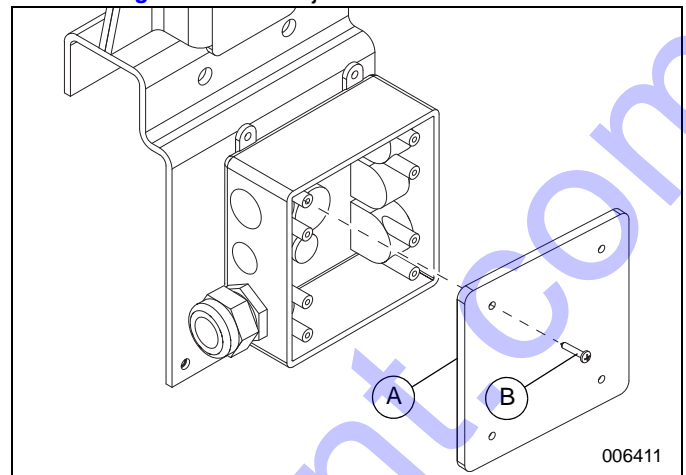

Figure 16. Junction Box Cover Installation
12. See Figure 16. Install junction box cover.